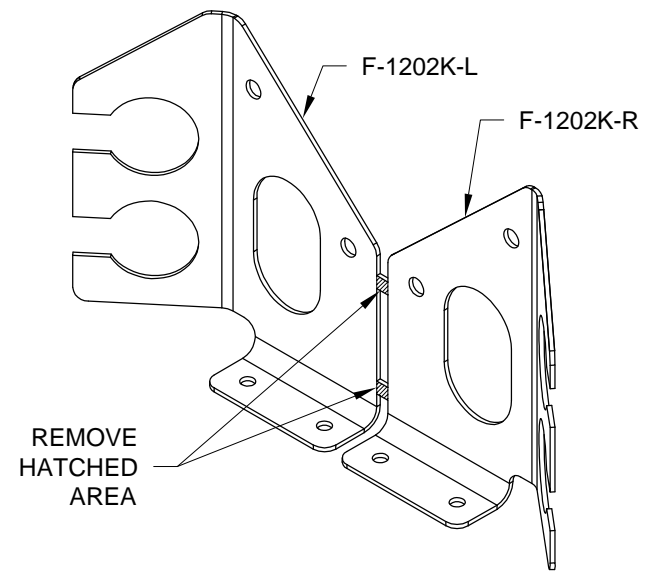

FIGURE 4: SEPARATING THE INST STACK SUPPORT
Step 8: Separate the F-1202K Inst Stack Support into left and right parts as shown in Figure 4.